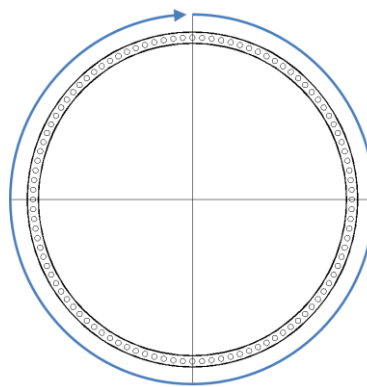

Figure 10: Apply nut turn to all the studs in one circle
6. Apply the specified nut turn to all the bolts in one circle (see Figure 10), mark all studs as usual.